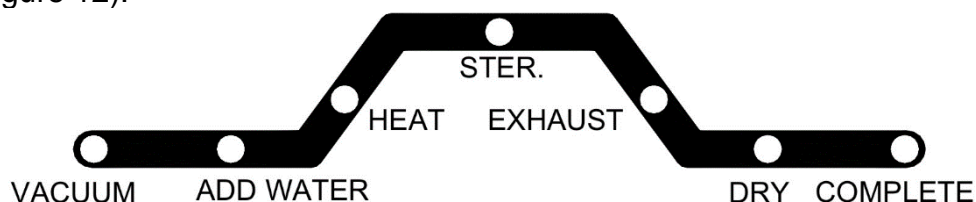

Figure 12
- F. Press the START Button , the setting temperature, duration, and dry time displayed two times on the three-digit display, and then the sterilizer will automatically run through the selected program. The current progress of the sterilization cycle is indicated by the illuminated LED on the Process Status Indicator. (Figure 12).